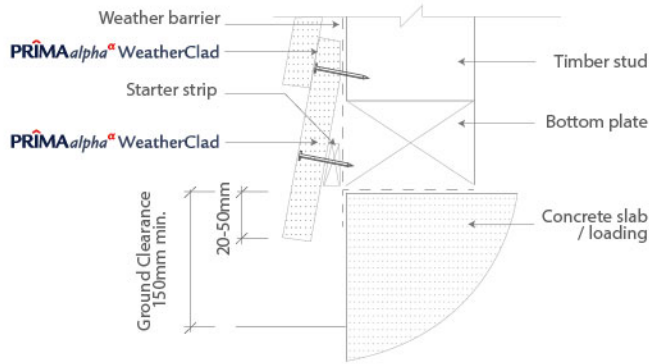
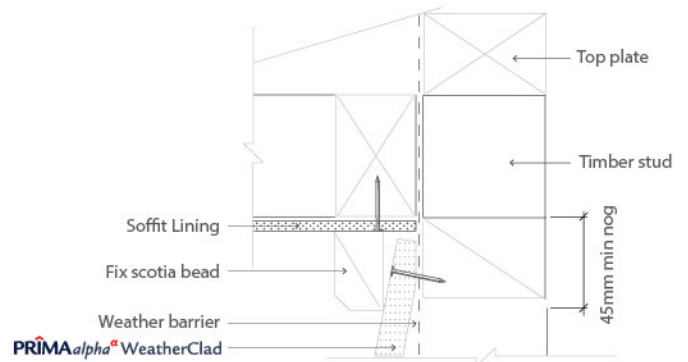

Figure 3: Foundation Detail
Figure 4: Soffit Detail
Provide a minimum of 150mm ground clearance between the bottom edge of **PRIMAalpha** WeatherClad (or starter strip) and the earth as shown in Figure 3. The plank must be overhang at the bottom plate on a concrete slab by 20- 50mm. Maintain a minimum of 50mm clearance between **PRIMAalpha** WeatherClad and roofs and decks, refer **Figure 4**.
7. Fix the first siding starting from external corner. Fasten the bottom edge of the siding to each stud or bottom plate through the starter strip, refer Figure 3.